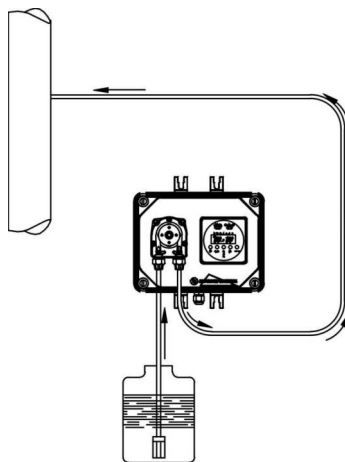

Fig. 3
c.- Locate the pump as shown in fig. 3 bearing in mind that it may be installed either below or above the level of the liquid to be dosed, though the level difference should not exceed 2 meters. In the case of liquids that generate aggressive vapours, do not install the pump above the storage tank unless the latter is hermetically sealed.